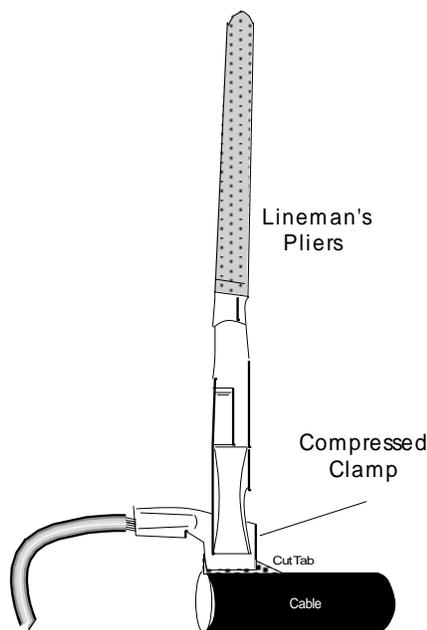

Figure 9 – Crimping the Alligator Clamp to Armor
12.04 Pull up the tab and place the alligator clamp to either side of the slit. Make sure one side of the clamp is under the armor and the other is on top of the cable jacket. Using lineman's pliers grip the clamp-on jaws and compress until the clamp is completely secured. See **Figure 9**.